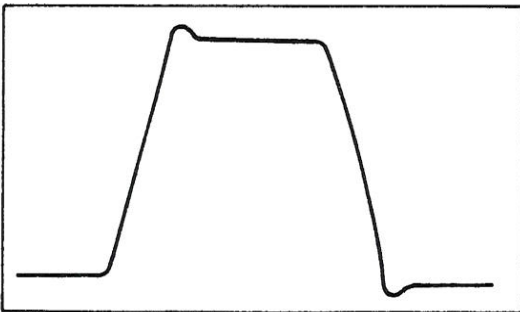

Fig. 3.6/2 Speed curve at properly adjusted P- und I-gain after a jump from $0 \rightarrow n_{\max} \rightarrow 0$
- Reduce the value and determine optimum curve (repeat presetting of single reference jump several times, see Figs. 3.6/1 and 3.6/2).